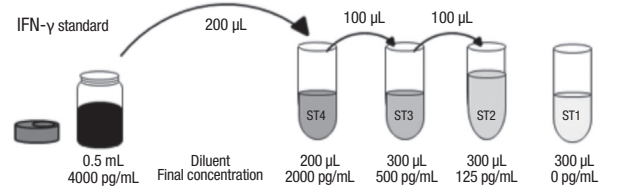

Figure 2. Preparation of standard curve dilutions
- Label four 1.5 mL microcentrifuge tubes from #1 to #4 to generate the dilutions for the standard curve. Serially dilute the standard solution as follows (see Figure 2 and Table 2): Pipet 200 μL of Diluent into tube #4, and 300 μL into tube #3 to 1, as shown in the diagram below. Make a serial dilution of the reconstituted standard (4,000 pg/mL) starting by transferring 200 μL of it into tube #4, and subsequently 100 μL from tube #4 to #3 and then 100 μL from tube #3 to #2, as shown in the diagram, and mixing well after each transfer. Do not transfer any further volume into tube #1 (0 pg/mL).